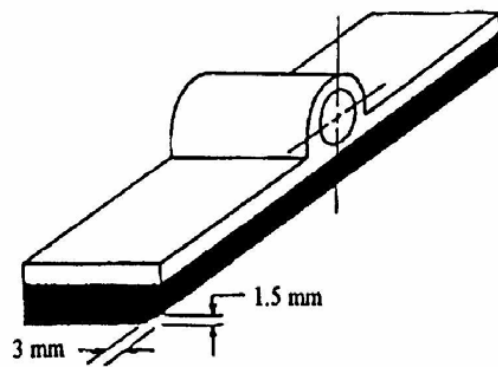

Figure 2: Slider Assembly showing wear limits on striking edge
2.2 Inspect the slider for wear (see Figure 2) or damage and replace it if necessary.